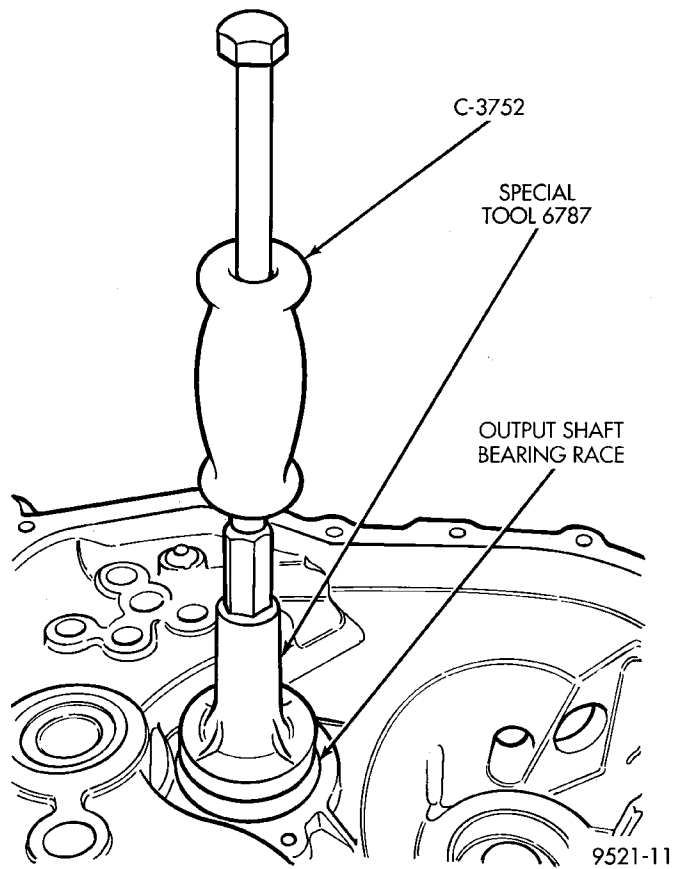

Fig. 125 Output Bearing Race Removal
- (3) Install tool #6787 and slide hammer (Fig. 125). Tighten tool to output bearing race.